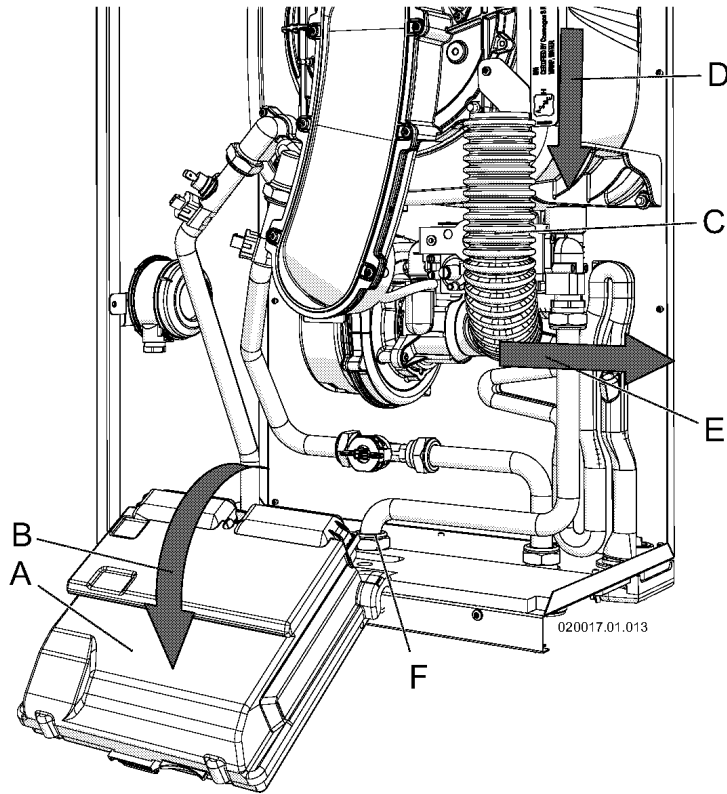

Figure 14-3 Remove the air inlet silencer
3. rotate the air inlet silencer "C" (Figure 14-3) in the front direction;
4. pull in the right direction "E" (Figure 14-3) the air inlet silencer and remove it from the fan;